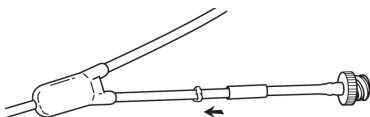

Fig. 14
5. Slide the metal cannula of the replacement tubing end completely into the extension tubing. (Fig. 14)